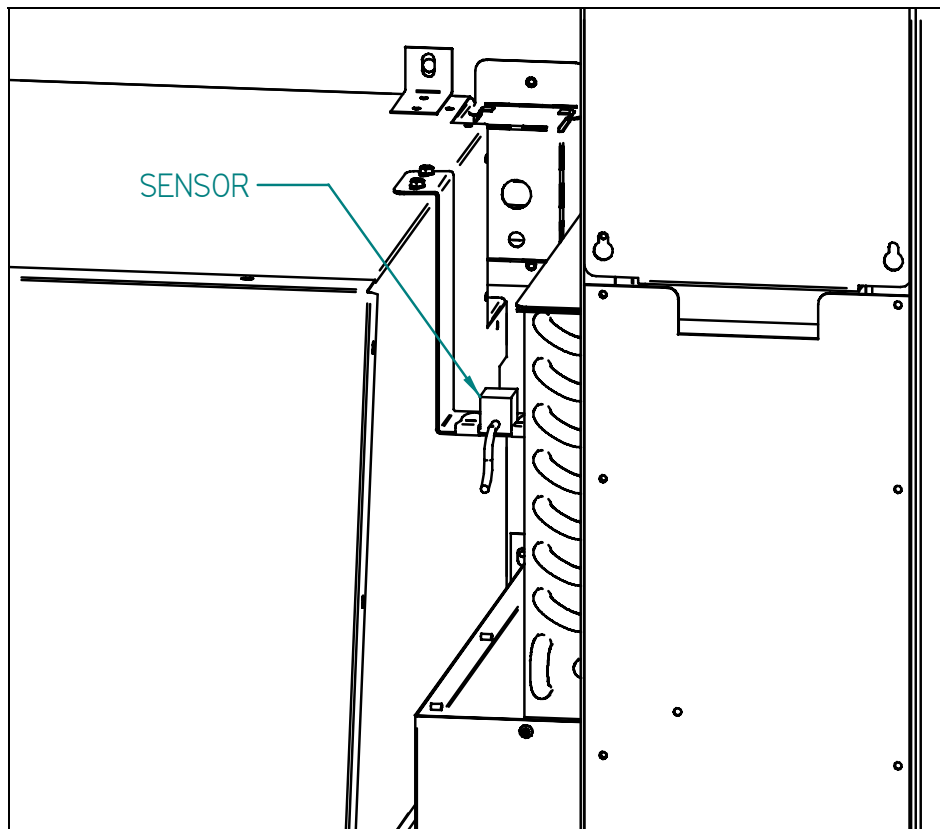

Figure 5. Temperature Sensor
2. At this point, the sensor (see Figure 5) can either be disconnected, causing the controller to assume a temperature of 255°F/124°C, or temporarily relocated outside the cabinet. Relocating the sensor will allow the sensor to be tested as well.